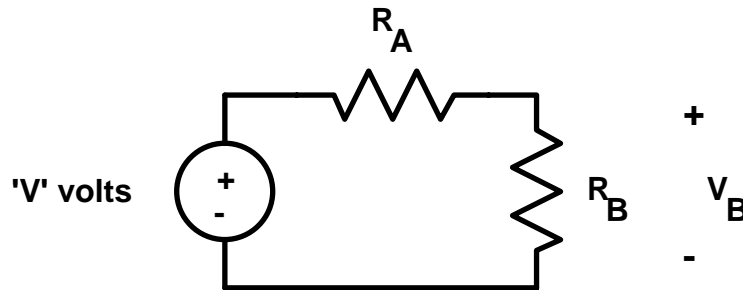

Figure 5.4
(II) A simple combination of two resistors in series is sometimes called a *voltage divider* because the voltage across the individual resistors depends upon the two resistor values. Using the circuit of Figure 5.4, determine a mathematical formula relating the voltage V_B (across R_B) to the applied voltage, V . (*Hint*: one way to start is to use the effective resistance to find the current).
(3) Construct the voltage divider circuit of Figure 5.4 using nominal resistors $R_A = 10k\Omega$ and $R_B = 1k\Omega$ (measure and record the actual values used). Attach the signal generator in place of the voltage source 'V' and use the oscilloscope to adjust the